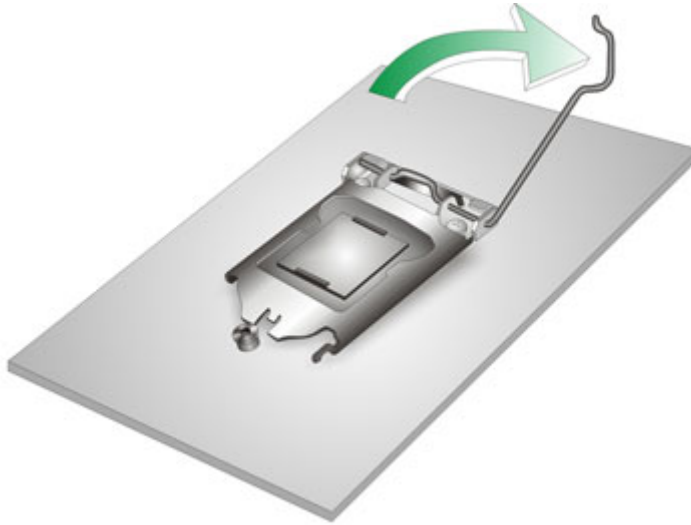

Figure 3-7: Disengage the CPU Socket Load Lever
Step 2: **Disengage the load lever** by pressing the lever down and slightly outward to clear the retention tab. Fully open the lever. See **Figure 3-7**.